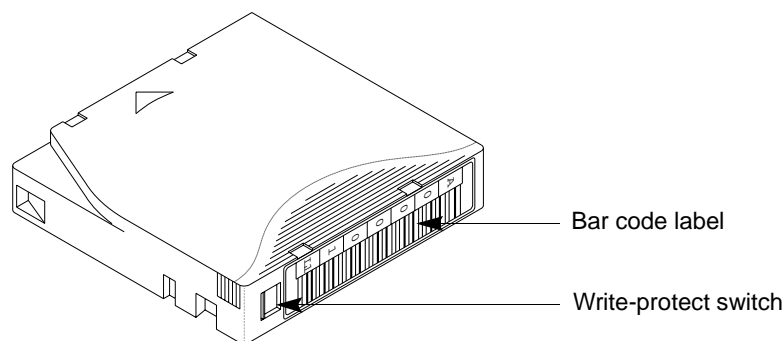

Figure 5-2 Bar code label placement and write-protect switch location
1. Affix the supplied bar code labels to the cartridges. Position each label in the indented area on the cartridge, as shown in Figure 5-2.